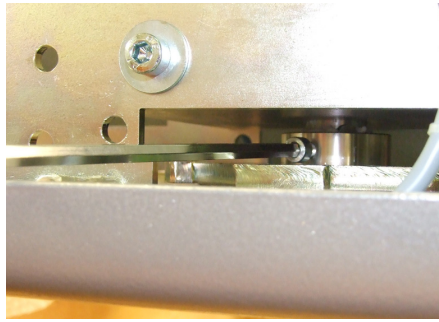

Fig. 16: Remove the fixing screw
1. Turn the screw on the drive shaft using a size 6 hex wrench until the first fixing screw (Fig. 16) becomes visible.